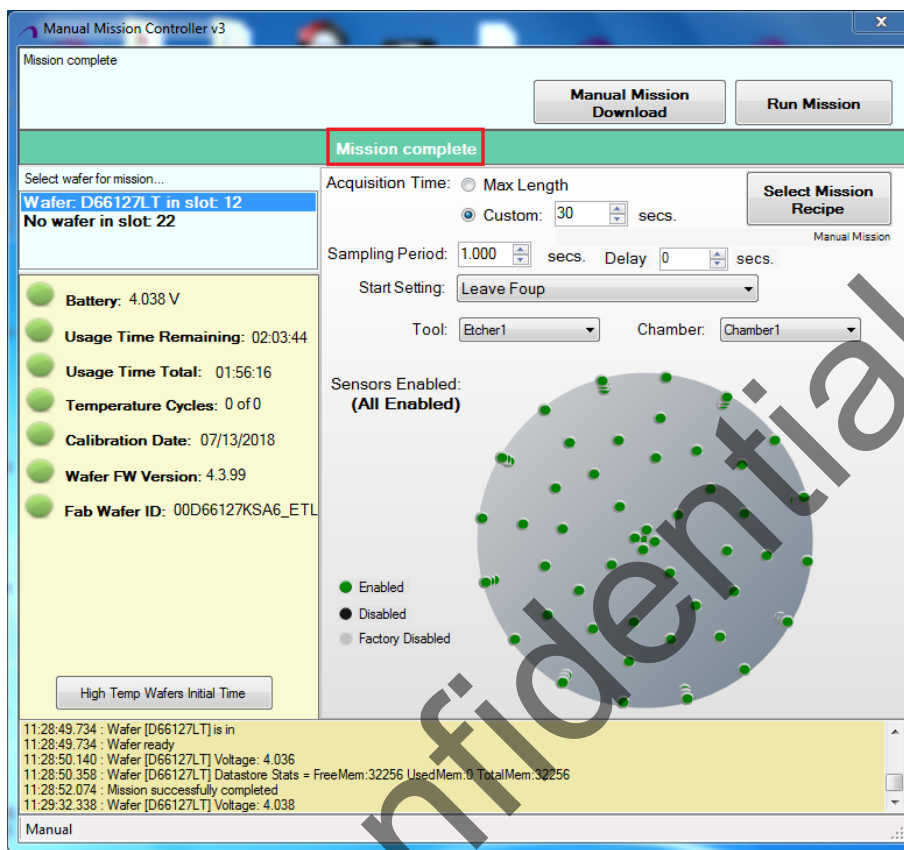

Figure 5-24 Mission Complete window
- **Temperature Transient Bidirectional** – Temperature Transient begins the acquisition of mission data immediately with the change of temperature. (OR) The wafer will start once a temperature change of 0.3 °C/sec is detected (unless there is also a delay). As mentioned above this occurs **before** the delay (if any) has elapsed. The internal CPU temperature is used. Both rising and falling temperatures at the specified rate will cause this to trigger.
10. You can see the **Mission Complete** information on the status bar once the data is downloaded in the SAT database, as shown in Figure 5-24.